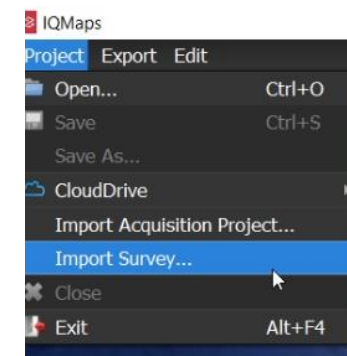

Fig. 31 Import survey step 1
1. Press on the **Project** icon (top left corner of Fig. 26) and select **Import Survey...** option (Fig. 31),